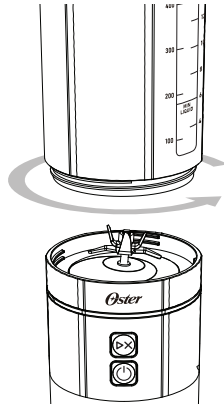
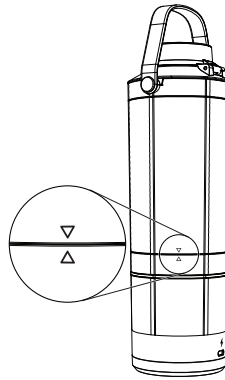

Figure 4
Figure 5
3. Secure the jar onto the motor base. Turn to the right to tighten (Figure 4). Ensure that the graphic arrow on the jar is aligned with the arrow on the motor base (Figure 5).